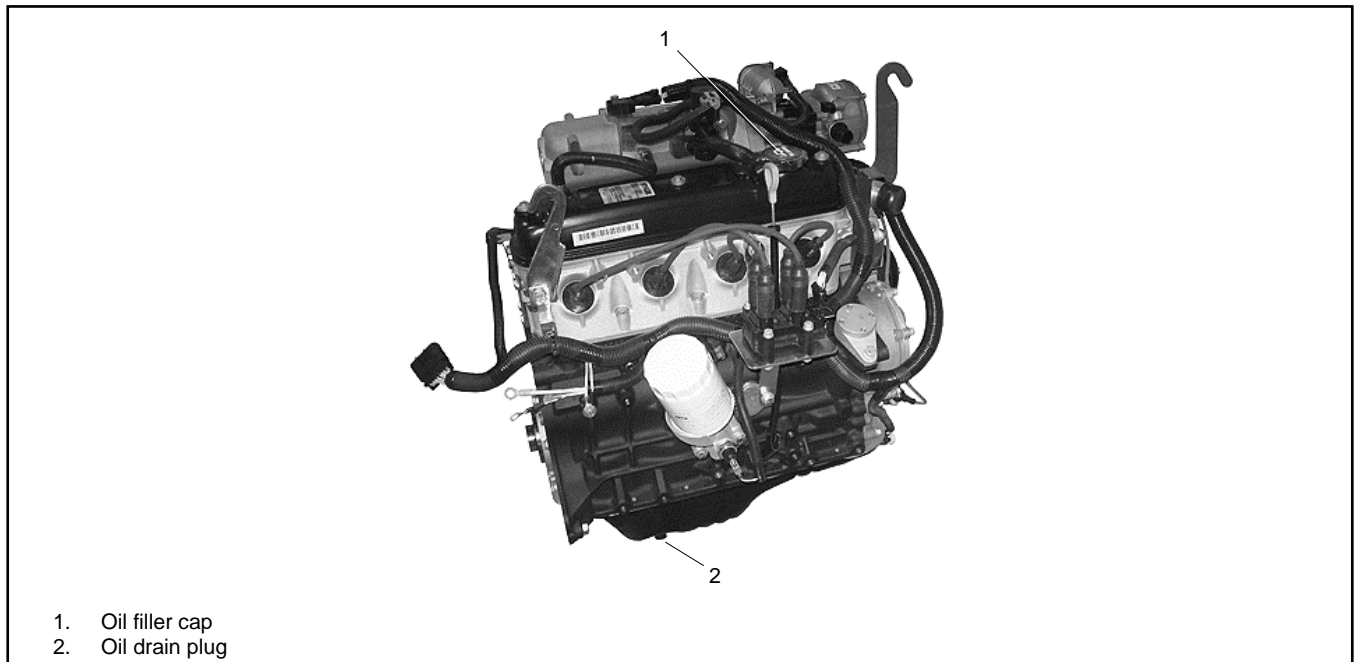

Figure 28 Oil Fill and Drain Plug Location
2. Place a drop cloth and collection container beneath the oil drain plug. See Figure 28.